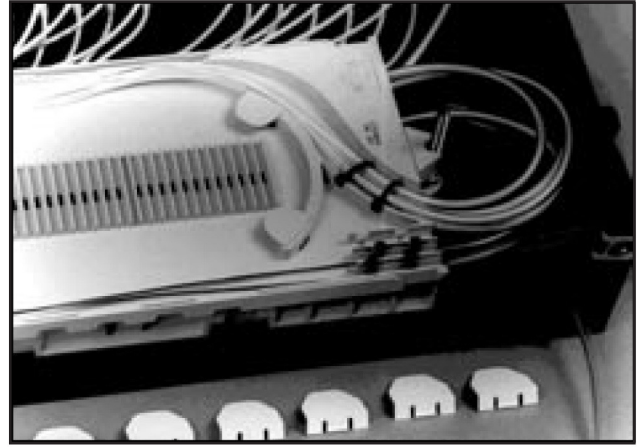

FIGURE 10 - SECURE FIBERS TO SPLICE TRAY
- 8.07** Secure the Pigtail Assemblies and Fibers to the Splice Tray with the tie wraps. (Figure 10)